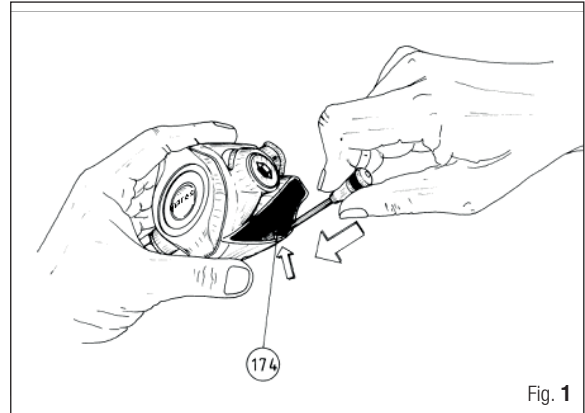

Fig. 1
4. Remove the mouthpiece (44).
5. Remove the fixing pin (174) from the cap (41) of the exhaust tee (Fig. 1).
NOTE FOR THE OPERATION DESCRIBED IN STEP 4, IT IS RECOMMENDED THAT YOU USE A METAL PRICKER HAVING A MAX DIAMETER OF 2 MM (FIG. 1).